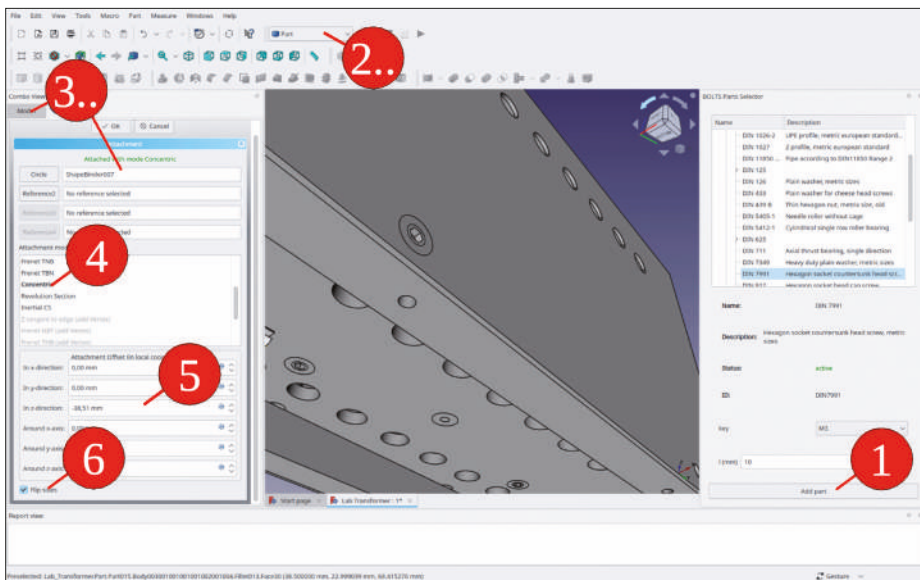

Figure 9-146
11. In the task window, select 'Concentric' as the attachment mode. Set the attachment offset Z to -38.51 mm and check the 'Flip sides' checkbox. (The additional offset of 0.01 mm to the border of the casing helps to display the screw more clearly, Figure 9-146). Close the task window with the 'OK' button.